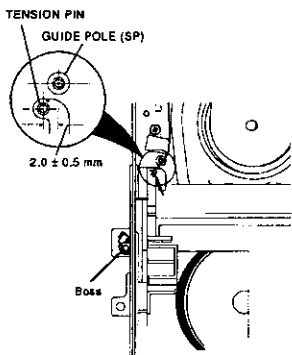

Fig. 3-1-1
- 2 Make sure that the TENSION PIN is in the position shown in Fig. 3-1-1.
- 3 If the TENSION PIN is not in the position specified in Fig. 3-1-1, turn the boss to set the TENSION PIN to be in position.